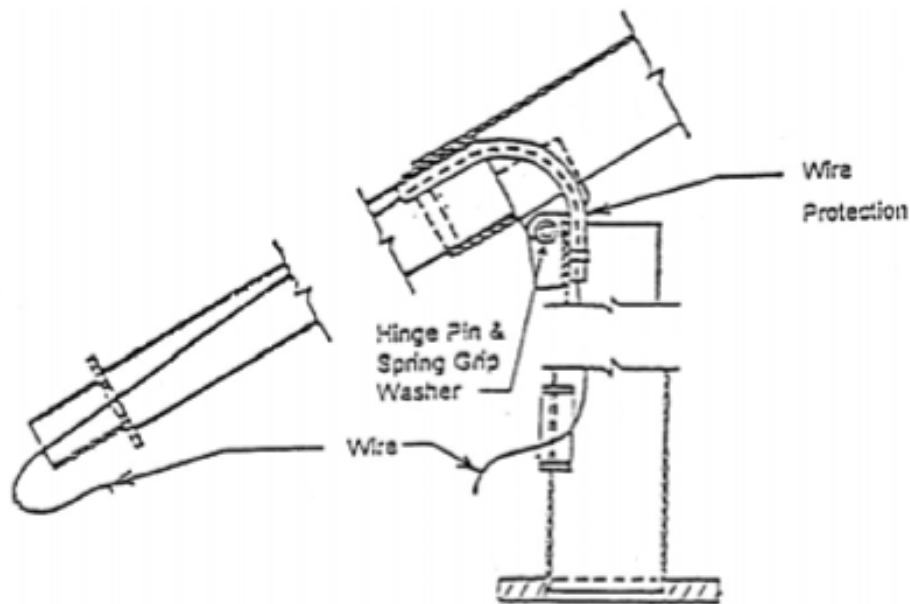

FIGURE 2
1. Rotate pole top at hinge. (FIG2).
2. String wire through pole as shown (FIG2).